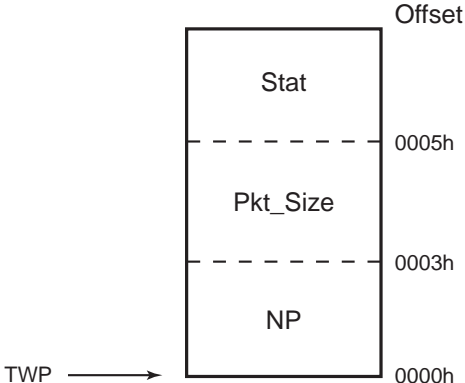

Figure 62. Descriptor Table Entries
The TxDMA module moves the next packet to be transmitted from EMAC memory into the TxFIFO. Whenever the polling timer expires, the TxDMA reads the High status byte from the Tx descriptor table pointed to by the Transmit Read Pointer, TRP. Polling continues until the High status read reaches bit 7, when the Emac\_Owns ownership semaphore, bit 15 of the descriptor table (see Table 179 ) is set to 1. The TxDMA then initializes the packet length counter with the size of the packet from descriptor table bytes 3 and 4. The TxDMA moves the data into the TxFIFO until the packet length counter downcounts to zero. The TxDMA then waits for Transmission Complete signal to be asserted to indicate that the packet is sent and that the Transmit status from the EMAC is valid. The TxDMA updates the descriptor table status and resets the ownership semaphore, bit 15. Finally, the Tx\_DONE\_STAT bit of the EMAC Interrupt Status Register is set to 1, the address field, DMA\_Address, is updated from the descriptor table next pointer, NP (see Figure 62 ). The high byte of the status is read to determine if the next packet is ready to be transmitted.
The descriptor table contains three entries: the next pointer (NP), the packet size (Pkt\_Size) and the packet status (Stat), as shown in Figure 62.